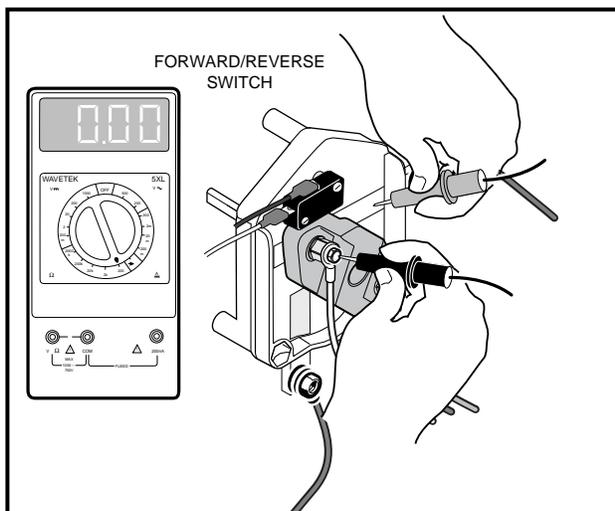

Figure 11-14 F&R Switch Test - Step 1.3
- 1.3. With the F&R switch in the REVERSE position, place the red (+) probe on the *common* terminal lug (with brown wire attached) of the F&R switch, and place the black (-) probe on the movable contact (with the white wire attached) on the forward and reverse rotor (**Figure 11-14, Page 11-11**). The reading should be continuity.